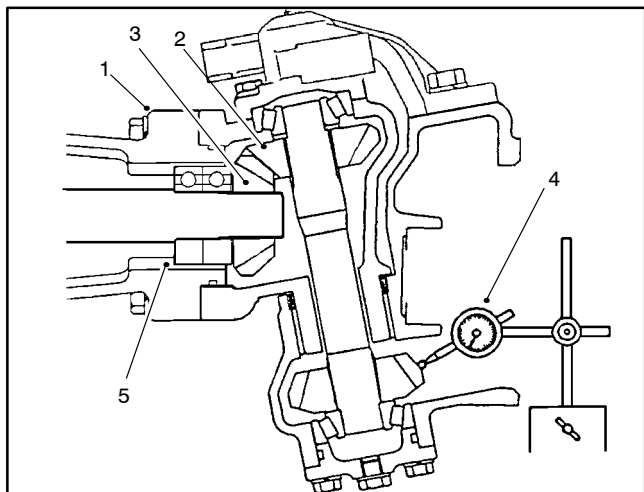

Figure 21
7. Temporarily install the bevel gear case/axle case assembly on the axle support. Position a dial indicator at the tooth's center. Prevent the axle from turning and measure the upper bevel gear backlash (Fig. 21).